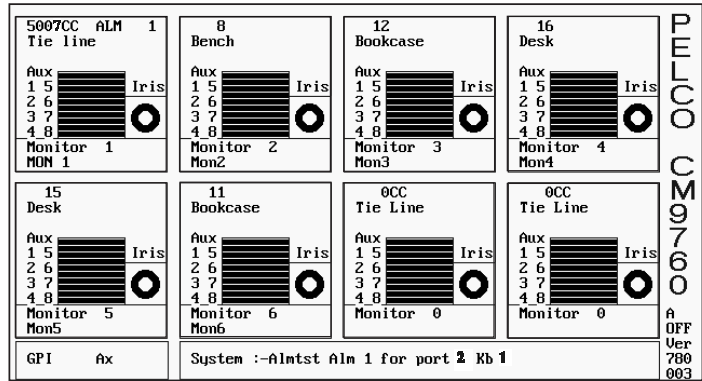

Figure 4-2
- At the same time, the AT diagnostic screen's Monitor box shows that camera display 5007, which utilizes a tie line, is displayed on Mon 1. The system box (or system error line) is illustrated in Figure 4-2.